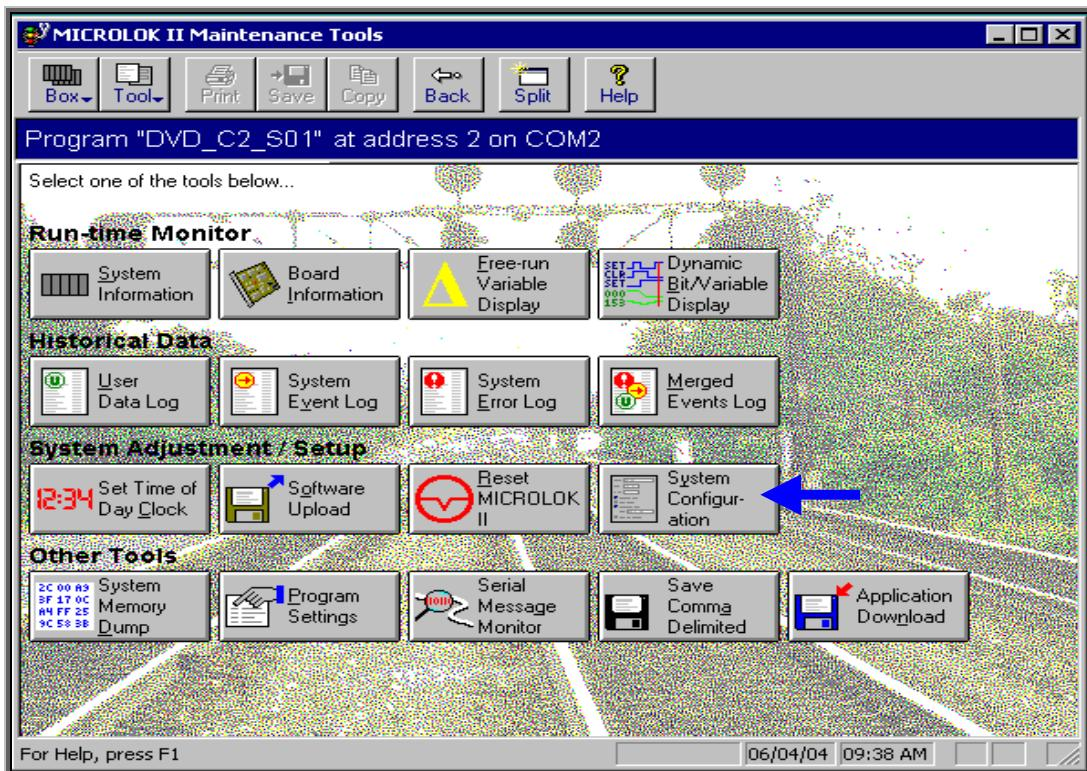

Figure-7.3.2
- ❖ Maintenance Tools main menu appears (Figure-7.3.2).